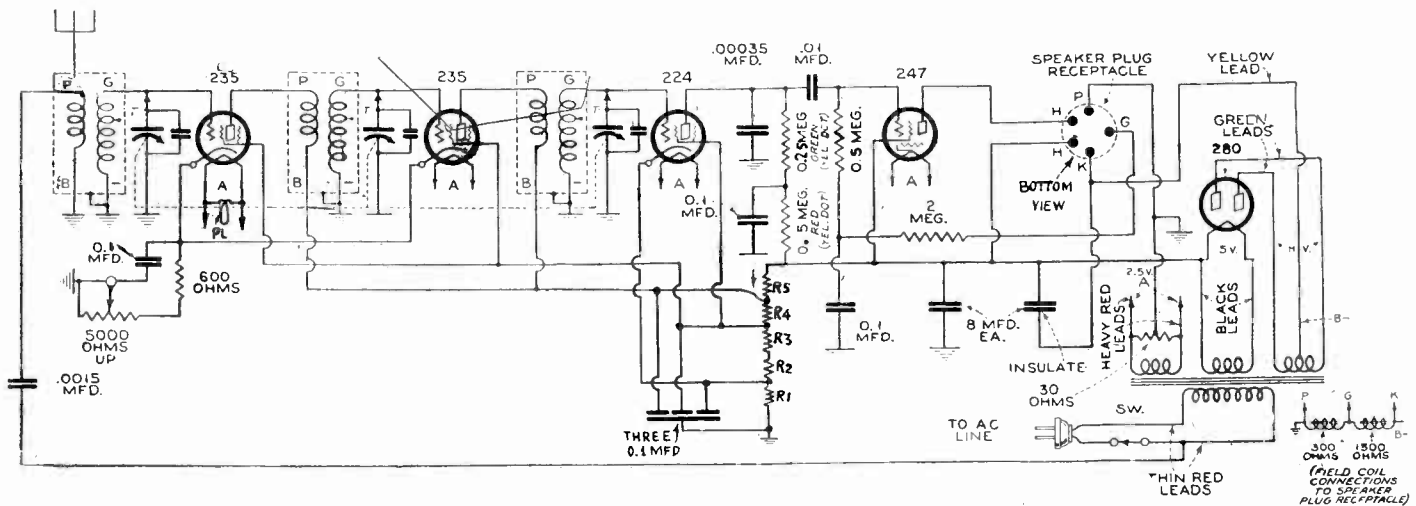

FIG. 1
Constructors, used to wire wound voltage dividers that stand considerable current, may prefer to use them. Those who adhere to the grid leak type need have no qualms, however, for the only resistor that carries considerable current is the one that drops the maximum B voltage to the B plus plate voltage for the radio frequency tubes. This is marked R5 in Fig. 1, and it is usually recommended that the rating be 5 watts. Now, this is not a husky resistor, yet 5 watts would be ample for the purpose (more than twice the actual wattage). Resistors don't begin to look husky until they get into the 25 watt class.
The other resistors, even in Fig. 1, may be of the 1 watt type, the familiar 2-inch pigtail resistors of the grid leak style.
Fig. 1 shows what is intended to be a combination of uses. While the voltage division may be on the basis of 1 watt resistors, except for R5, for none of them carries more than 10 ma, while R5 will not carry more than 20 ma, if the resistance values of R4, R3, R2 and R1 are lowered, the device becomes a high current voltage divider. The total then need not much exceed 6,000 ohms.
The diagram is partly pictorial, and therefore an explanation of the choke and bias is necessary. Taking the pentode output, this is connected to the primary of an impedance-matched transformer built into the dynamic speaker, and the connections are made to the heater springs of a UY socket used as speaker plug receptacle. The speaker has five leads emerging in a cable with UY plug at end, and the plate and maximum B plus connections are as stated. Then there are the three leads emerging from the field coil—two extremes and bias tap. The receptacle socket has its plate spring for ground connection, grid spring for the tap (G) on the field coil and cathode for B minus, as detailed at lower right of Fig. 1. So the field coil is actually connected between B minus and ground, and the grid return of the pentode is to the tap (G), not to ground. Center of the 2.5 volt filament is grounded.